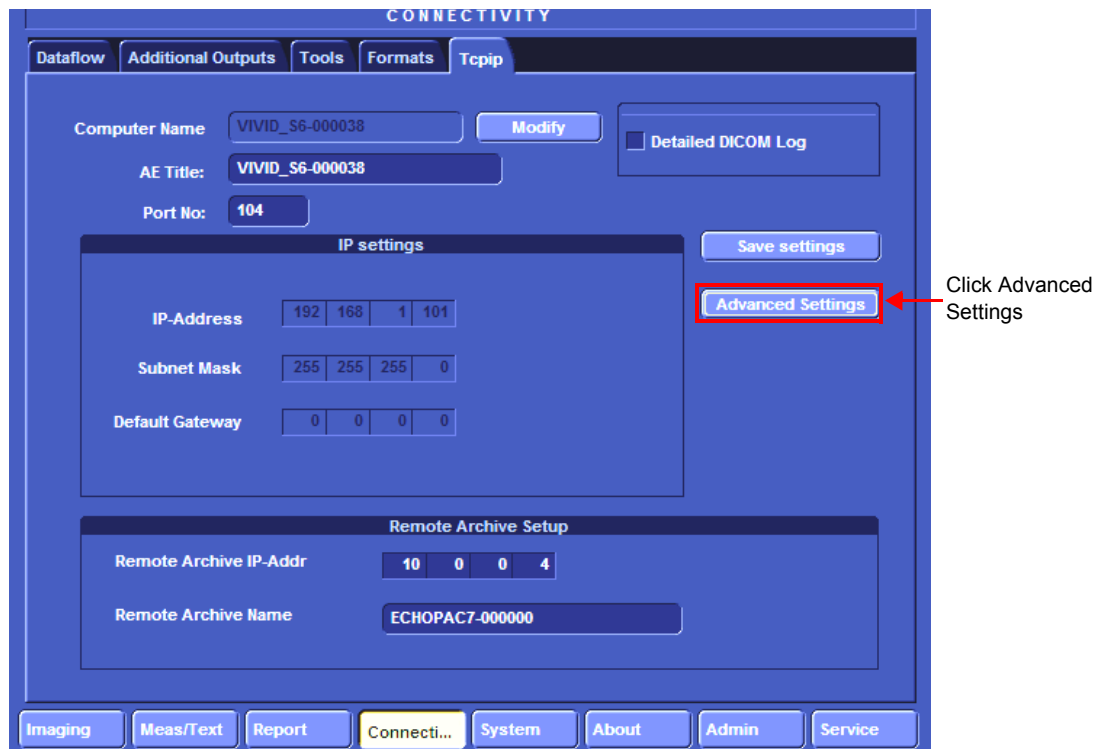

Figure 3-43 Tcpip screen
- 2.) Select **Advanced Settings** - see Figure 3-43.